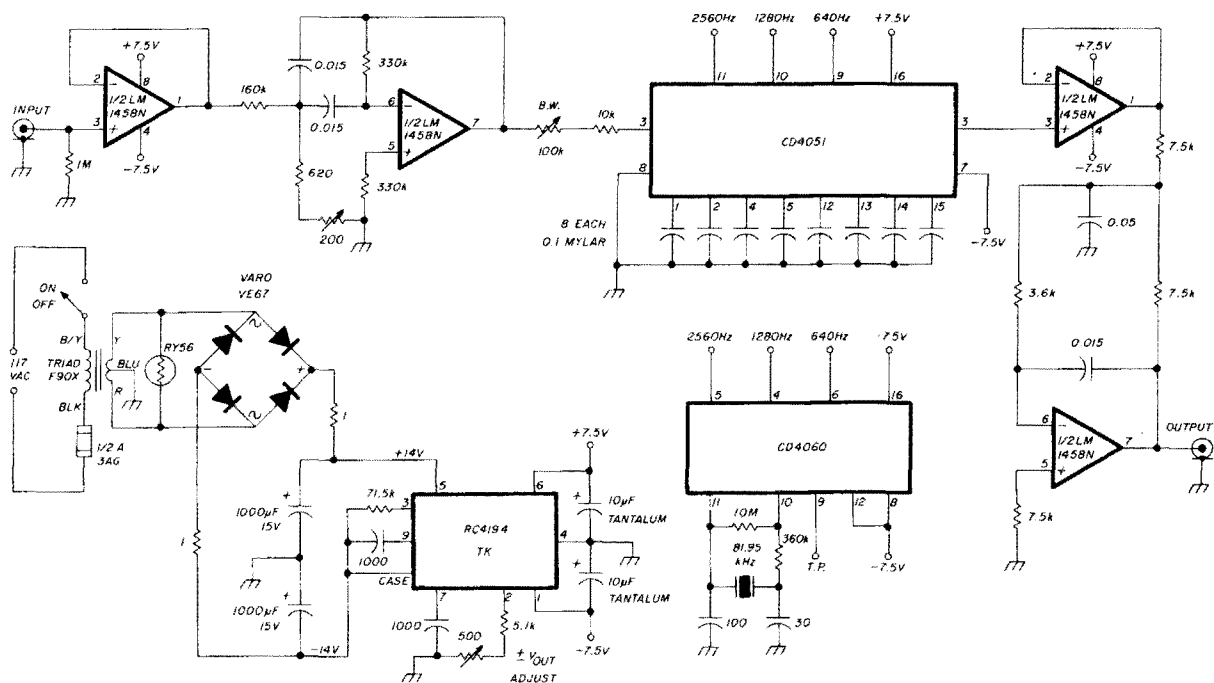

fig. 8. Example of a practical commutating filter. This filter has been set up for an operating frequency of 640 Hz.
Finally, a construction project using a commutating filter in a useful piece of ham equipment is presented in fig. 8. The design process was as follows:
2. Once the desired pitch frequency is determined, multiply it by 128 and get the oscillator frequency to the CD4060. As an example, say that the operator preference turned out to be 640 Hz; then, the input frequency would be 81.92 kHz. If one has a crystal of about that frequency, it can be used directly in fig. 8. Otherwise, higher frequency crystals could be used, with taps at positions further down the divide-by-two chain. For instance, a 328-kHz crystal could be used, the outputs taken from pins 6, 14, and 13 (still yielding 2560, 1280, and 640 Hz respectively).
In fig. 8, an input noninverting follower has been added so that the unit may be driven from almost any impedance. An LM1458 dual op amp is used for both the input follower and the pre-filter. Addition of a variable resistance in place of R allows the passband to be varied from 3.0 Hz to 30.0 Hz, continuously. Another LM1458 dual op amp is used in the output section as the noninverting follower and lowpass filter. By using two dual op amps, and using the CD4060 (which combines the crystal oscillator and divider in one IC package) I've reduced the circuit down to four ICs, plus the one IC used as the power supply regulator. The 81.92-kHz crystal was actually an 81.95-kHz unit that is quite common on the surplus market, 81.95 kHz being a standard time base frequency for a variety of distance-measuring devices.